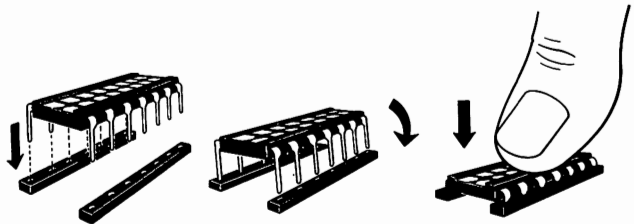

Figure 2-6. Inserting the jumper block
- Reposition the jumper block over the correct connectors. Align the pins on the jumper block with the holes in the connectors (Fig. 2-6).